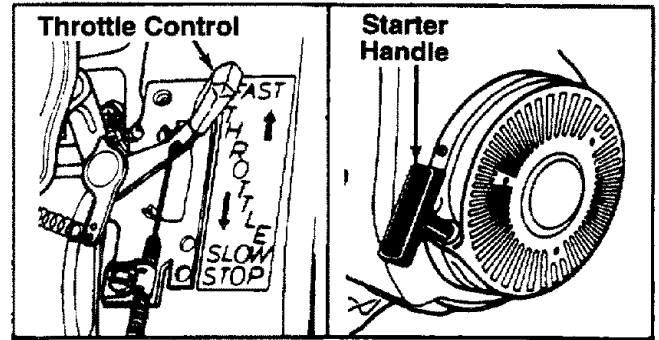

FIGURE 12.
- Place the throttle control lever in FAST position. See figure 12.
- Grasp starter handle (see figure 12) and pull rope out slowly until engine reaches start of compression cycle (rope will pull slightly harder at this point). Let the rope rewind slowly.